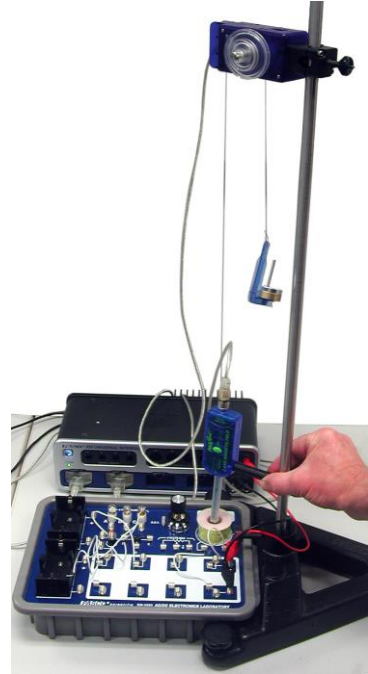

Figure 4: Equipment set up
4. Attach the 90 cm rod to the base and position the base by the Electronics Laboratory as shown in Figure 4.
5. Attach the Rotary Motion Sensor (RMS) to the rod as in Figure 4.
- a. Tie one end of the thread around the strain relief in the cable attached to the Magnetic Field Sensor so it catches in one of the grooves as shown in Figure 4.